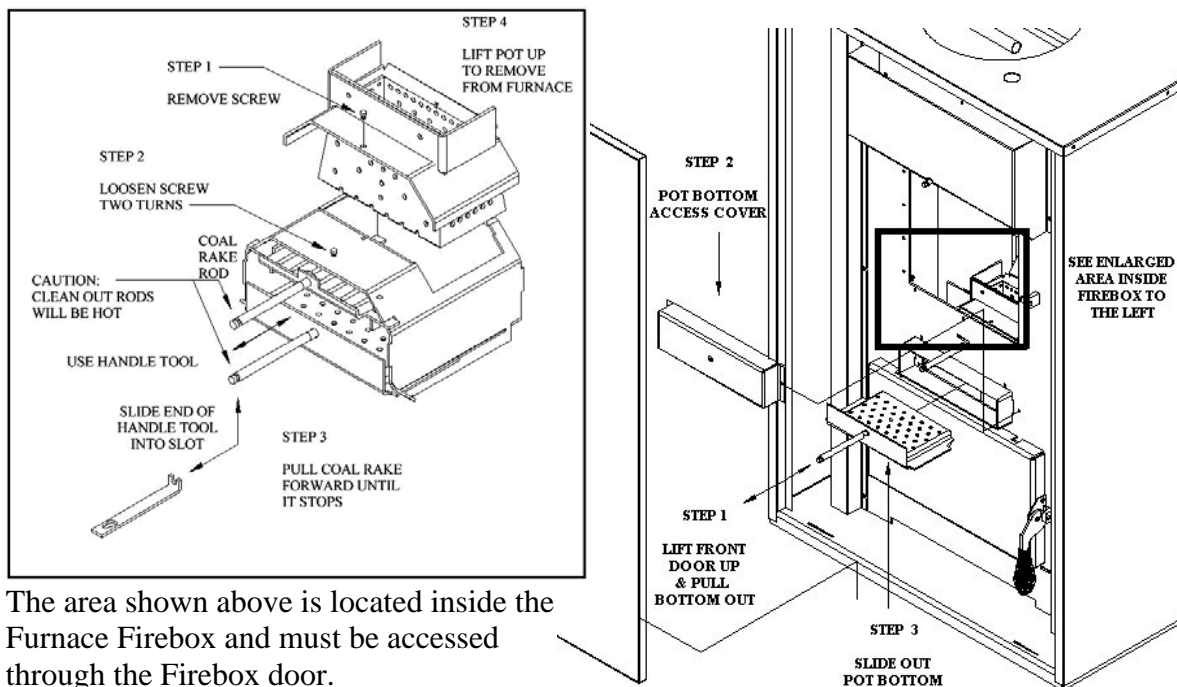

Figure 21
1. **The coal Rake.** The first step is to push the coal rake in and shave the coals off the top of the clinker. Once this is done open the door and add a ¼ cup of pellets on top of the coals (*See figure 19 on page 38*). To push in the Coal rake, use the Rod Handle tool shown in figure 21 on page 40.
3. **The slide out bottom.** (See figure 20) Now you are ready to drop the clinker from the burn pot. Pull the bottom out in one quick motion and let the clinker drop into the ash pan. Quickly push the bottom in again. To pull out the slide bottom use the Rod Handle tool shown in figure 21 on page 40.
6. Cleaning the Heat exchange tubes. Now you can pull the tube scraper back and forth a couple of times to keep the tubes clean. If the Tube Scraper feels sticky and difficult to move, check for the presence of creosote on the tubes. If creosote is present a damper adjustment may be needed or the Furnace has become plugged and needs a thorough cleaning. Call Dealer for assistance. To pull the tube scraper back and forth use the Rod Handle tool shown in Fig. 21 on page 40.
2. **Burnpot and Slide-Out Bottom.** Clean burn grate holes whenever needed. Remove the Burnpot and use a small metal object (Nail, Drill Bit, etc) to clean out plugged holes. (See Figure 21 below)